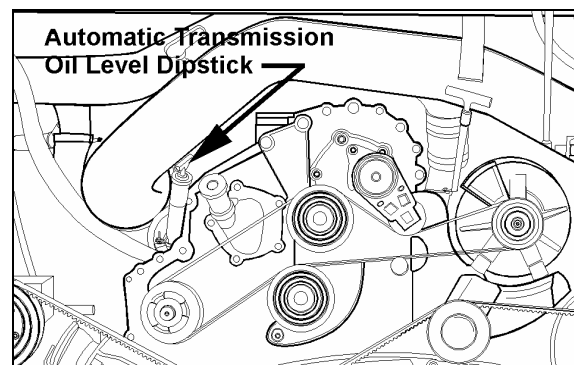

FIGURE 7: OIL LEVEL DIPSTICK (AUTO. TRANS.) 07033
To gain access to the dipstick, open the engine compartment rear door; dipstick is located on the radiator side of the engine (Fig. 7).
2. Run the engine for at least one minute. Shift to Drive (D) and operate the engine for 30 seconds at 1000-1500 rpm; then shift to Reverse (R) to clear the hydraulic system of air. Finally shift to Neutral (N) and allow the engine to idle (500 - 800 rpm).
3. While the engine is running, remove the dipstick from the tube and wipe it clean (Figs. 7 & 8).